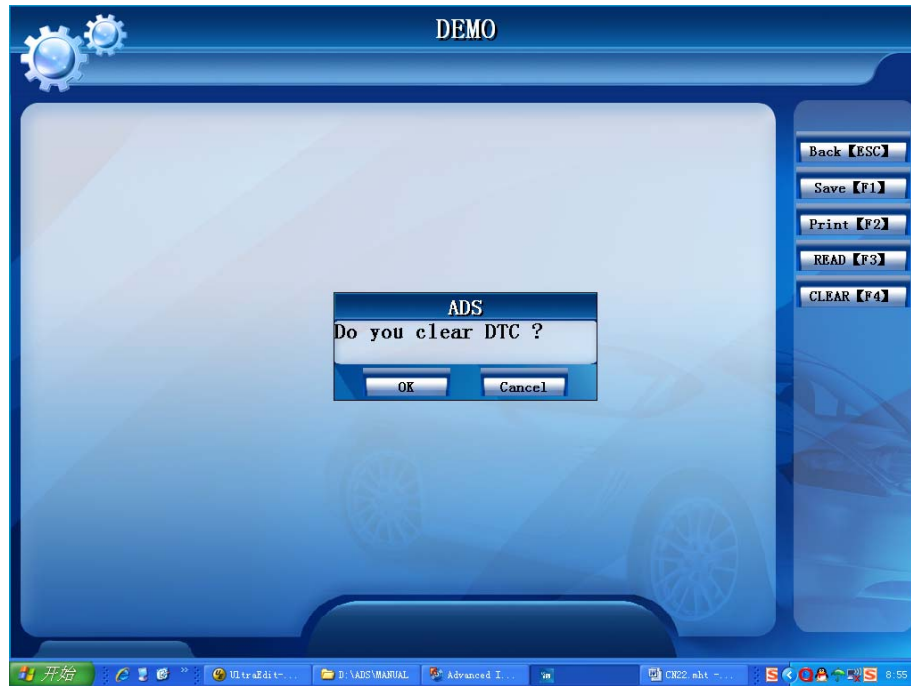

Figure-14
14. If you choose “Clear trouble code”, it will appear an interface whether to clean out DTC, as shown in figure-14.